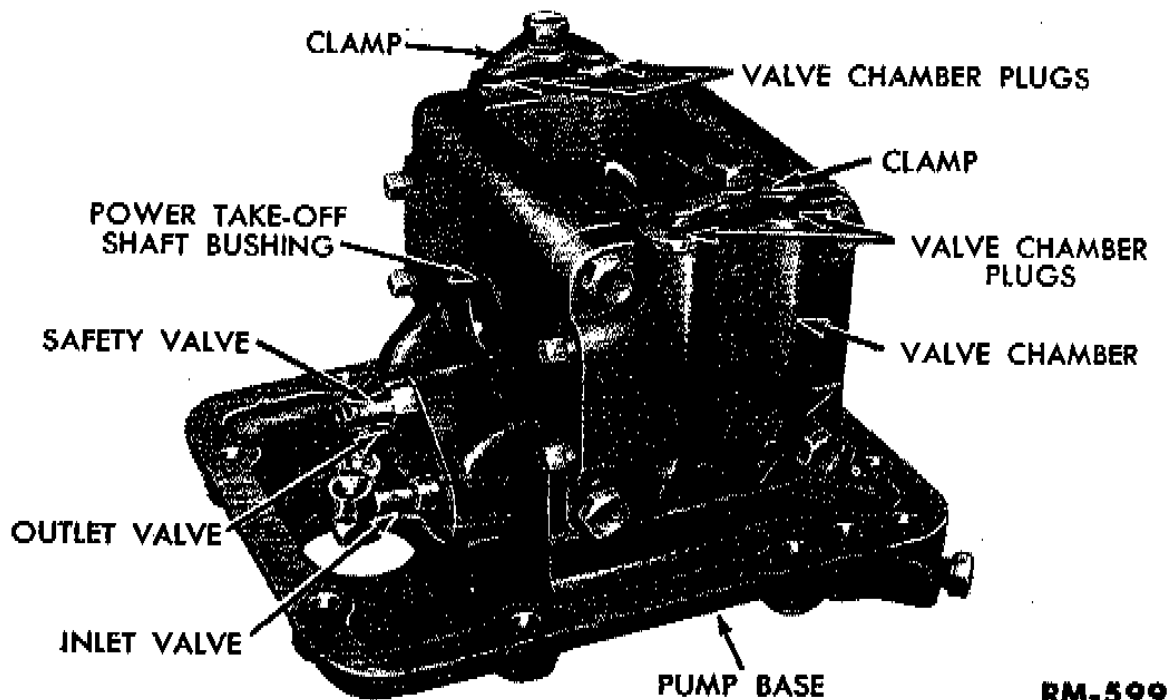

Fig. 22—Hydraulic Pump
The disassembled hydraulic pump is shown in fig. 22.
a. **Disassembly.** Remove the safety valve and check valve. Remove the cotter pin which secures the valve control lever to the base. Remove the cotter pin and clevis pin which secure the exhaust valve to the control lever. Remove the control lever. Remove the four cap screws which secure each valve chamber cover (fig. 22) to the base. With a soft hammer, tap the cam and piston assembly out. Lift the cam and piston assembly out. Remove the power take-off shaft bushing (figs. 22 and 23).
(6) **PUMP BASE**. Replace the base (fig. 22) if it is cracked, if the gasket surface is nicked or damaged, or if any threads are stripped.
making sure that the shoulder on the power take-off bushing is seated in the recess in the forward end of the cam. Install the valve chambers and new gaskets on the pump base. When installing the valve chambers, be sure that the oil holes in the valve chamber are in line with the oil passages in the pump base. There are right and left hand valve chambers and it is possible to interchange them. The pipe plugs should be on the same end of the pump as the control valves (fig.22).